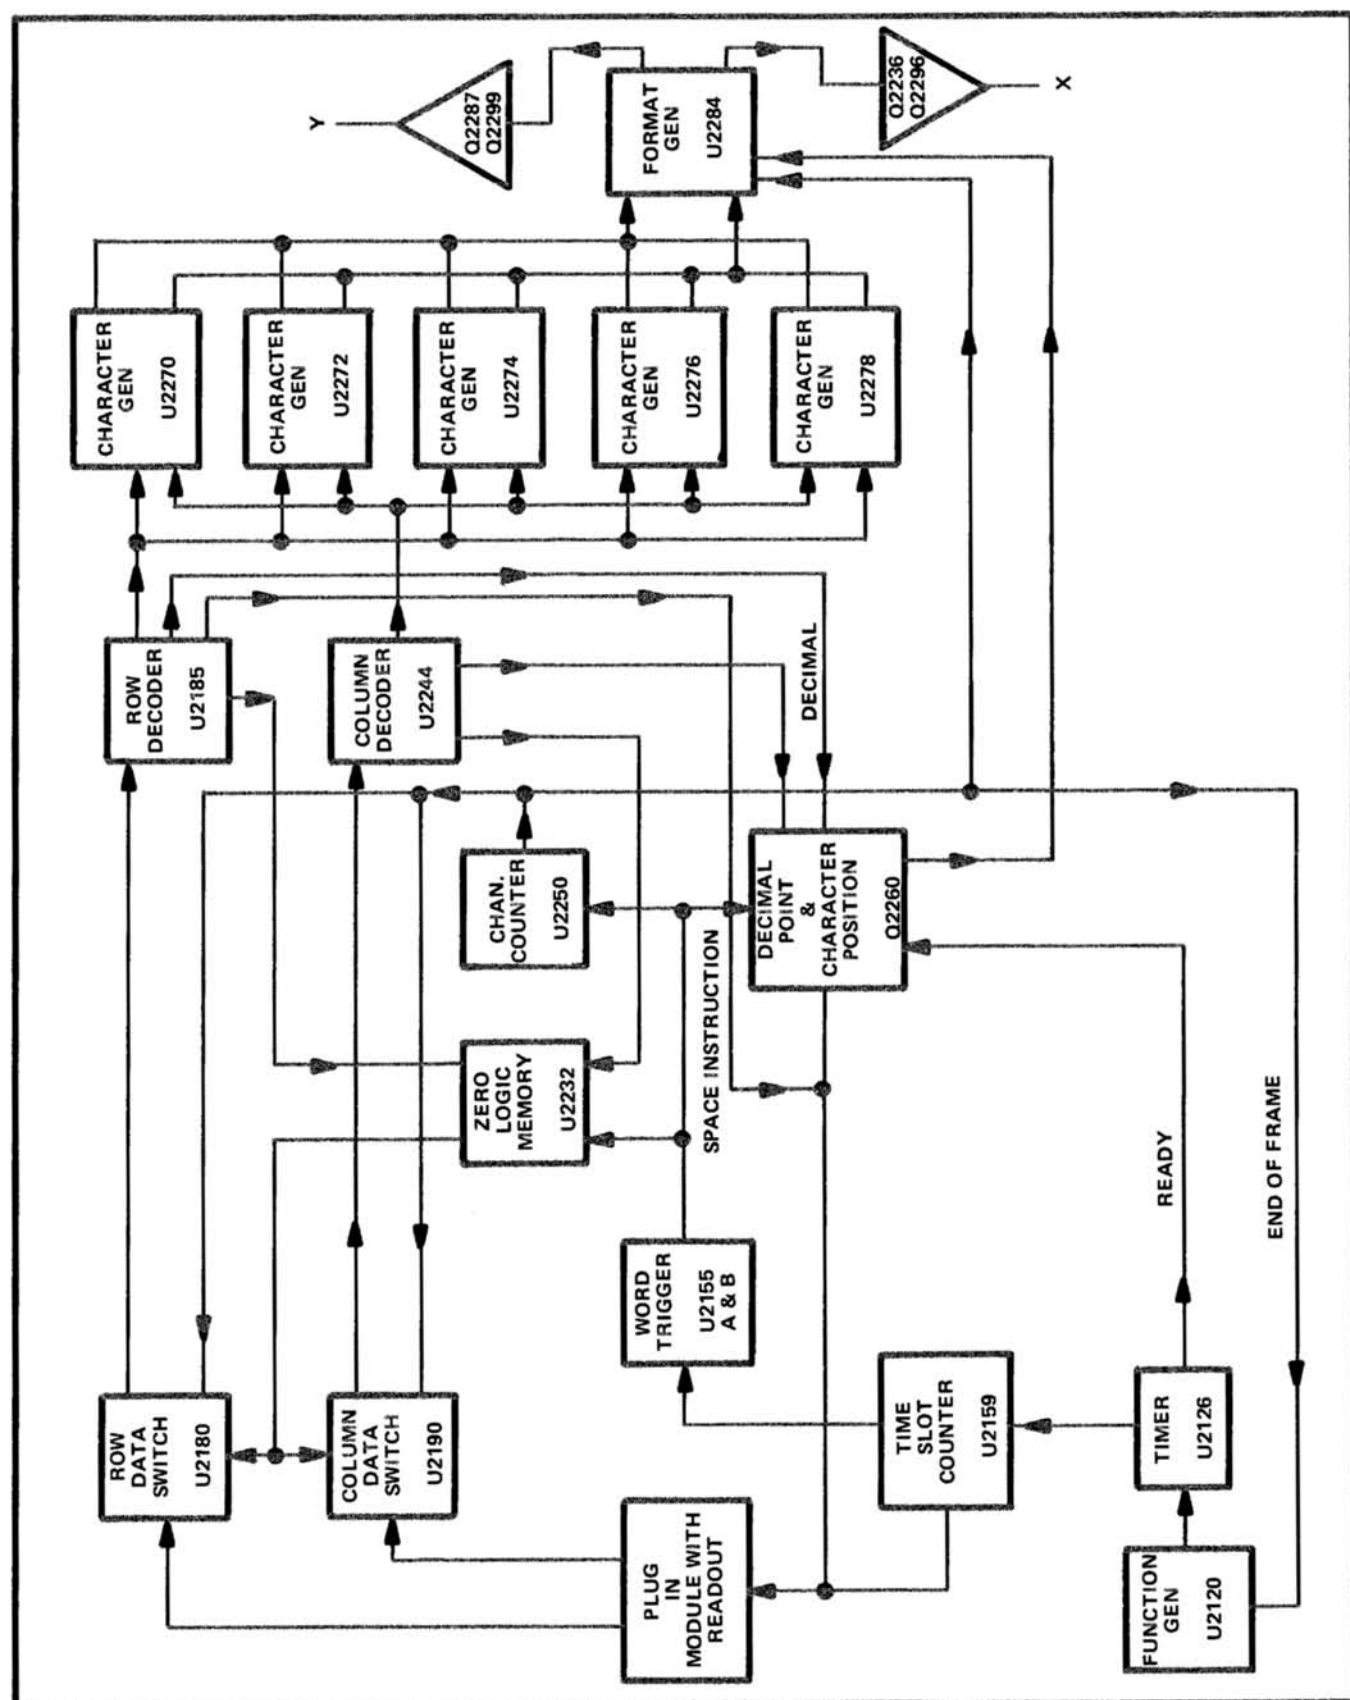

Fig. 3-27. Detailed block diagram of Readout System.
**Developing the Display.** The following basic description of the Readout System uses the block diagram shown in Fig. 3-27. This description is intended to relate the basic function of each stage to the operation of the overall Readout System. Detailed information on circuit operation is given later.